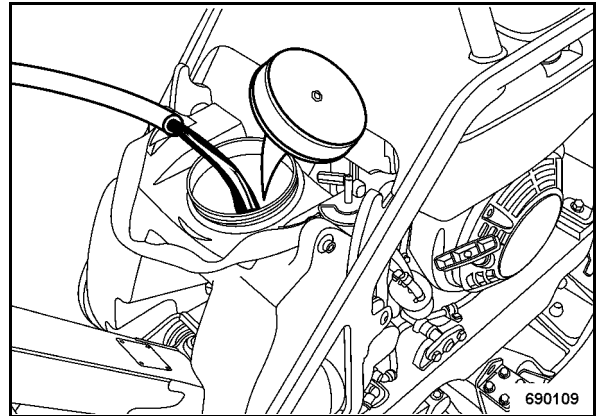

Fig. 37
- Open the water tank (Fig. 37) and fill in clean water.